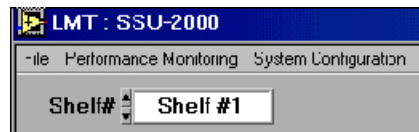

Figure 5-1. Shelf # List Box
- **Shelf #** — Click on the list to display the list (Figure 5-1) or click the up or down arrows to scroll through the list and select the shelf number to which you want to connect.